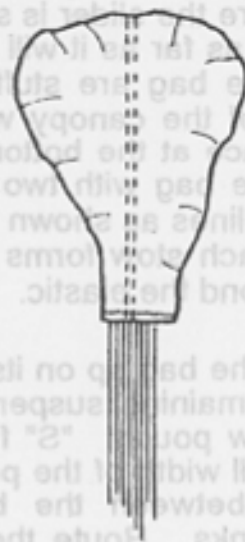
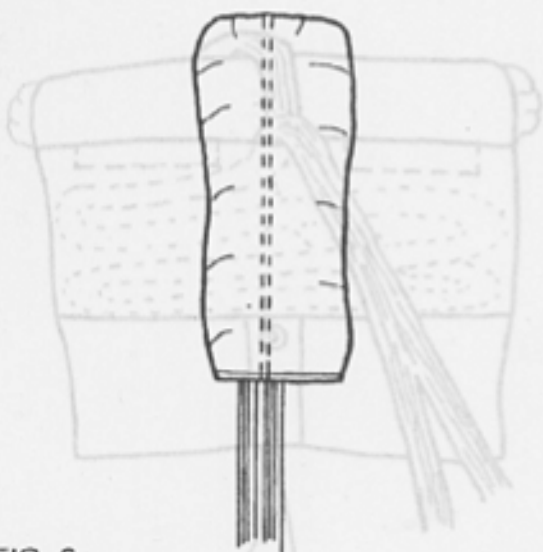

FIG. 5
FIG. 6
8) Route the bridle out the bottom of the container and close the side flaps, either side first, securing with a temporary pin (see FIG. 5). Leave the tuck flaps out until all but the top flap have been closed. They will be used then to help "dress" the container.
3) ALTICO recommends the "Pro-Pack" method of packing the reserve canopy, however, some manufacturers may still recommend the older "conventional" folding method. If the manufacturer of the ram air reserve canopy recommends the Pro-Pack, the canopy will look like FIG. 5 after it has been flaked. The conventional method will look more like FIG. 6. For either method, follow the manufacturer's instructions to this point, and then spread the canopy to either side of the center cell. Now compress and roll the center cell downward until it resembles the "V" shape shown in FIG. 7.